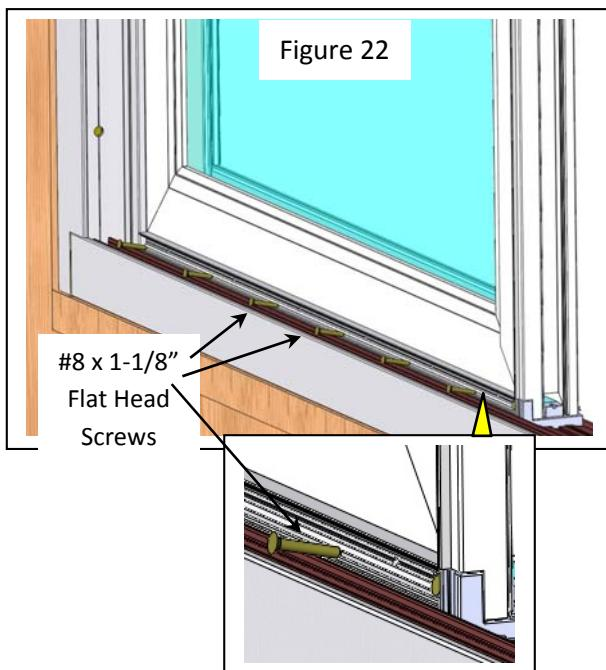
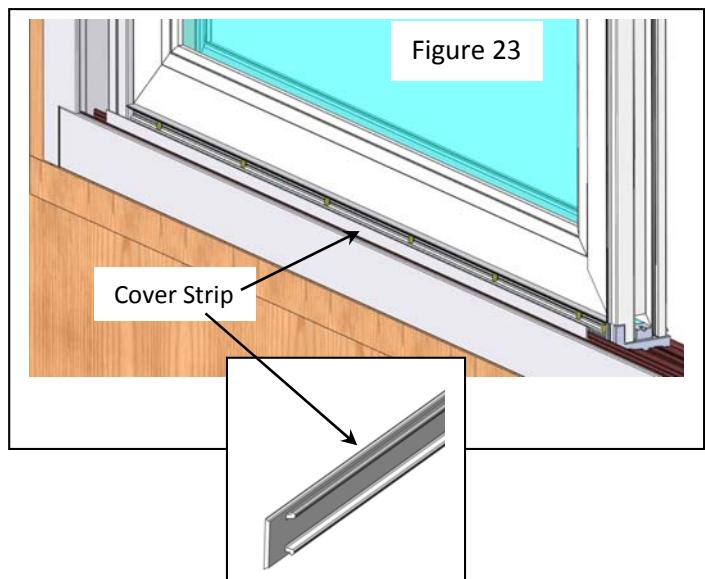

Figure 22
Figure 23
15) Drive six #8 x 1-1/8" Flat Head screws into the pre-punched holes at the bottom of the fixed panel support as shown (Fig. 22). Screws are meant to be driven at a slight downward angle. After screws are installed, snap the cover strip into the fixed panel support to hide the screws (Fig. 23). Start the strip at the end with the end cap and work towards the side jamb end.